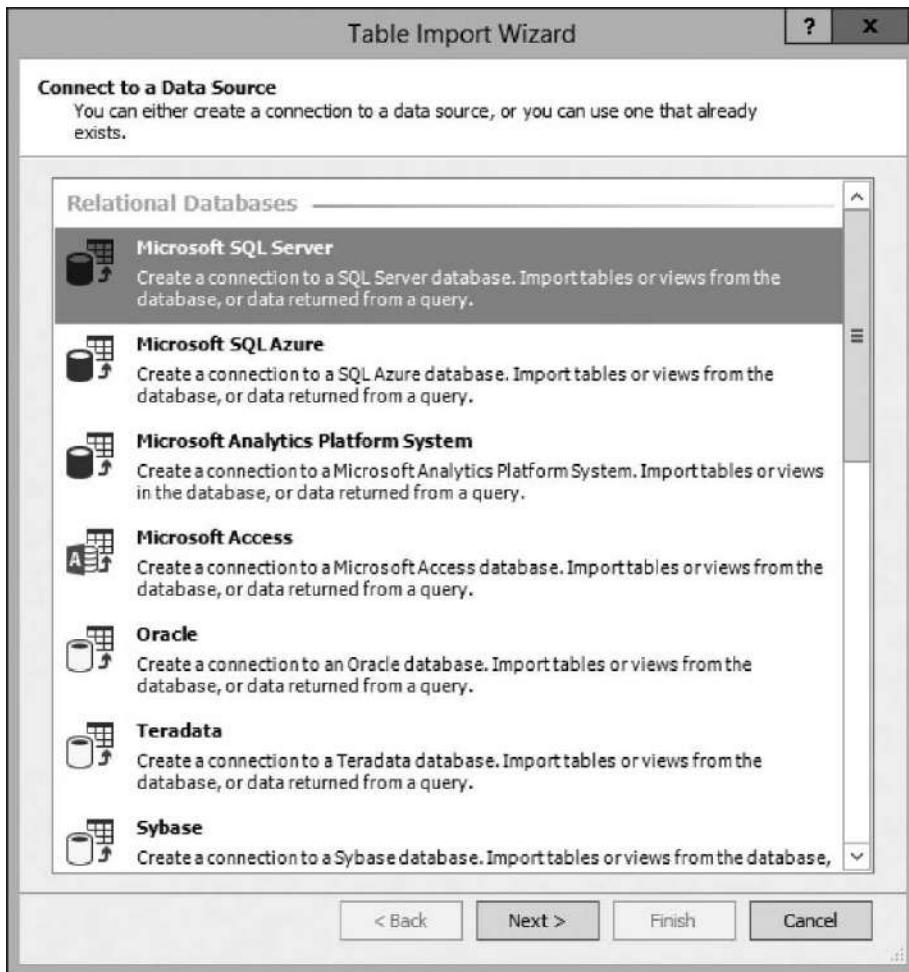

Figure 9-3 The Connect to a Data Source page of the Table Import Wizard
2. Scroll through the list and note all of the different types of data sources that may be used to provide data for a Tabular model. Scroll back to the top and ensure the Microsoft SQL Server entry is selected in the Relational Databases section of the list, as shown in Figure 9-3.